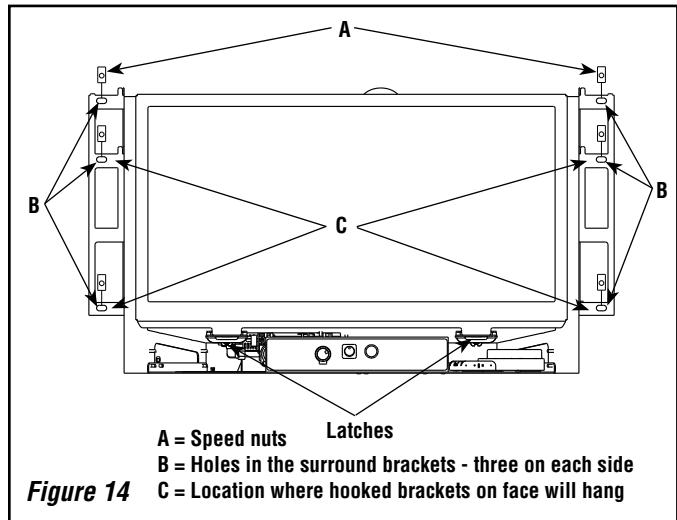

Figure 14
1. Remove the speed nuts (*A* in **Figure 14**) from the parts bag and install (with the flat surface forward) on the six holes in the surround brackets - three on each side of the insert (*B* in **Figure 14**). A flat bladed screwdriver may help in installing the nuts.
The faces come with hooked brackets. To install the face, hang the hooked brackets on the surround brackets (See C in **Figure 14**).